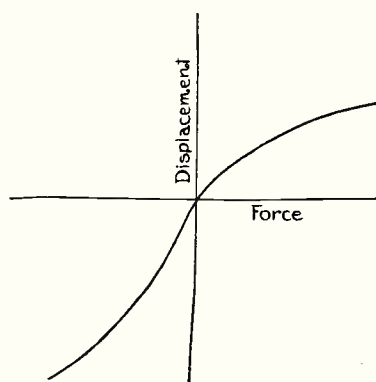

Fig. 3b.—A really bad centring device may even do things like this
The curve of Fig. 3b is an example of a very bad case, and it is defective in two respects, (a) it is not straight excepting for a small displacement on the right, and (b) for a given force the displacement on the left exceeds that on the right appreciably. Thus a centering device of this type would
In practice there are two cases of centring devices and surrounds which have to be considered. (1) When the centring device is stiffer than the outer surround, this being of kid leather or the like. (2) When the surround (usually the moulded type) is much stiffer than the centring device. In the first case, if a centring device with a characteristic akin to that of Fig. 3b were used, the results would be very unpleasant.
In some cases the diaphragm seems to take a slight permanent set on one side of the central position. If the characteristic happens to be asymmetrical like that of Fig. 3b, there is an effect akin to that of an anode-bend rectifier. When the carrier wave is switched on, the steady anode-feed current rises, whereas in the case of the speaker there is a corresponding unidirectional displacement of the diaphragm from its central position.